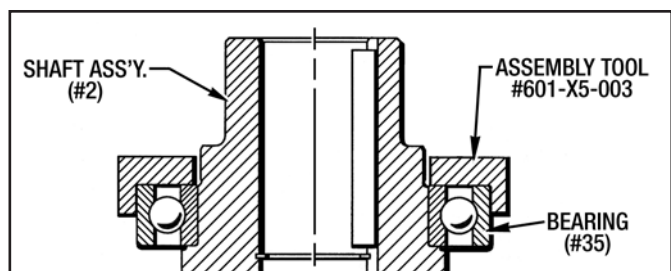

Figure 9.8 - Installing Bearing (#35)
1. The easiest method to install the Bearing (#35) on to the Shaft Assembly (#2) is to heat it up to 225°F. and drop it on to the shaft. The Assembly Tool can be used to properly seat the Bearing (#35) against the shoulder. (See Figure 9.8)